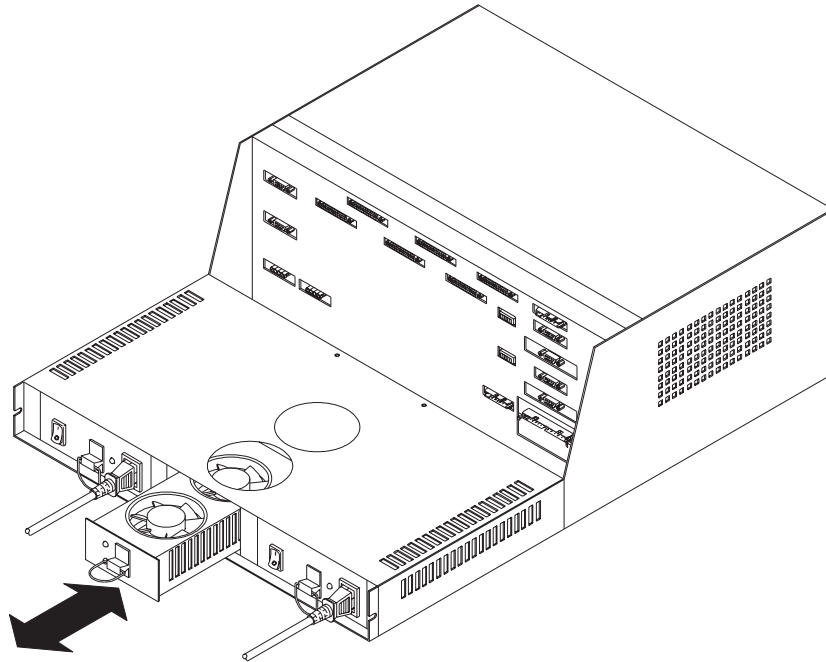

Figure 28. Removing and installing a power supply fan CRU
4. Install the new power supply fan CRU (see Figure 28).